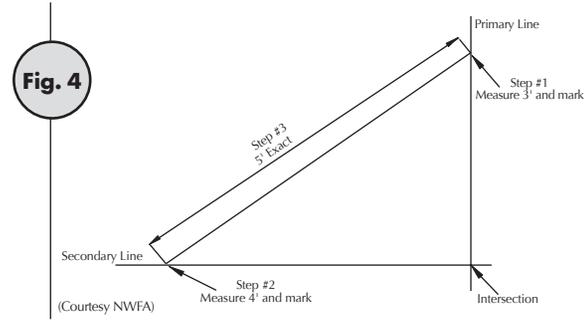

Fig. 4
2. Mark on the subfloor along the 12 ft. (3657.6 mm) at the middle of 6 ft. (1828.8 mm) point of the room. Snap a chalk line between these two points at center of room to establish the secondary or perpendicular line. Adjust secondary line using the 3-4-5 Pythagorean Theorem. Fig. 4. The two lines you have just drawn are the most important. All other lines will be measured from these lines.